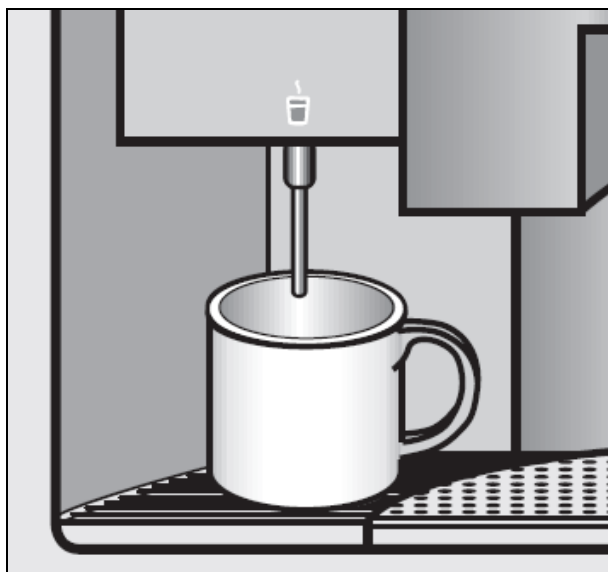

Figure 3-6: Cup Placed under Hot-Water Dispenser
1. Place a cup under the hot-water dispenser. See Figure 3-6.